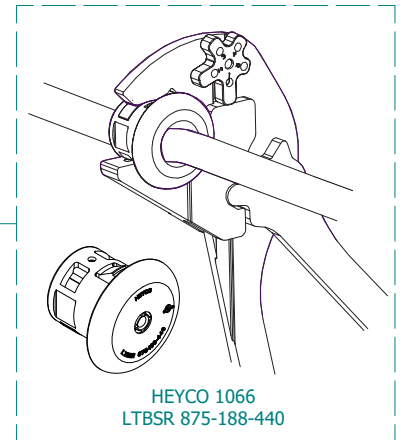

FIGURE 2A
3. Secure bushings over the power cables with hand pliers for easy installation. Conforms to UL strain relief requirements without the need of bending or kinking the cable. (FIGURE 2A)